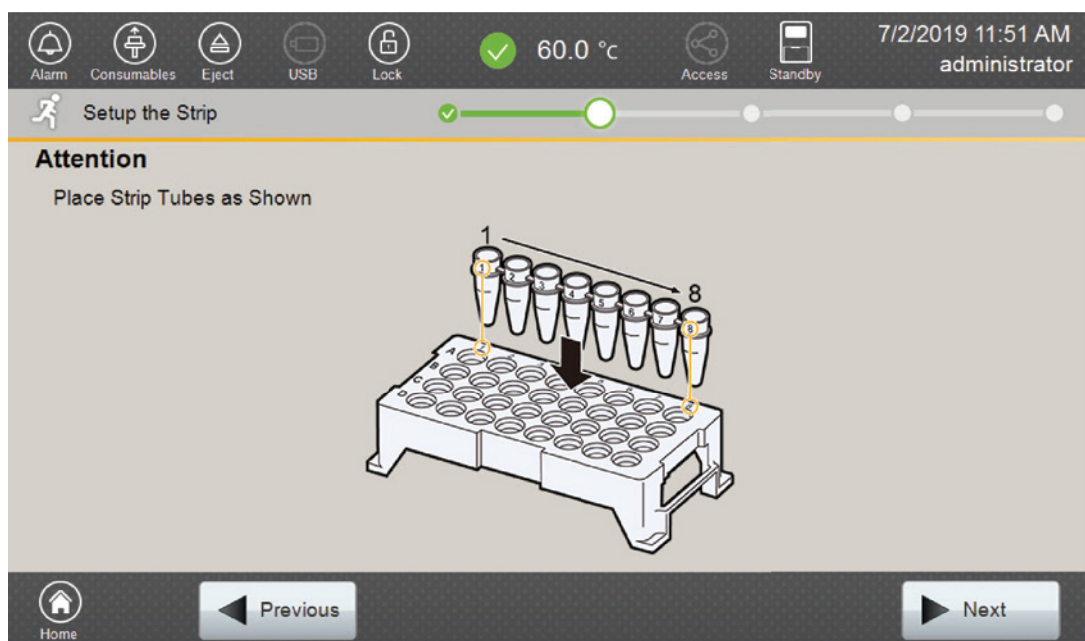

Figure 9. 'Setup the Strip' screen.
6. Follow the message screen for placement of strips into the sample cartridge (Figure 9).
1. Select **Next** on the 'Setup the Strip' screen shown in Figure 9. This will take you to the 'Setup Strip Information' screen shown in Figure 10.